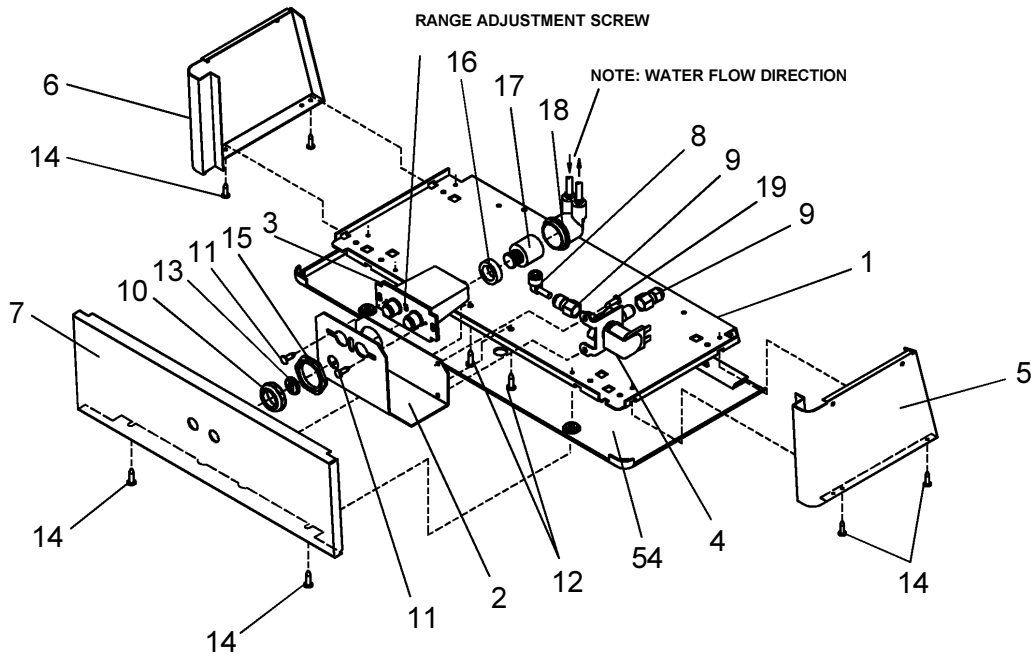

FIG. 3
See Fig. 3 (on Page 3)
- Using a small tip screwdriver, rotate range adjustment screw clockwise to increase range and counter-clockwise to decrease range. (See Fig. 3).
- Stream height is factory set at 45-50 PSI. If supply pressure varies greatly from this, readjust stream height to approximately 1-1/2" (38mm) above the bubbler guard by turning adjustment screw, accessible by removing front panel, Item No. 7 (see Fig. 3 & 5).
- Replace the front panel and secure by retightening four (4) screws.